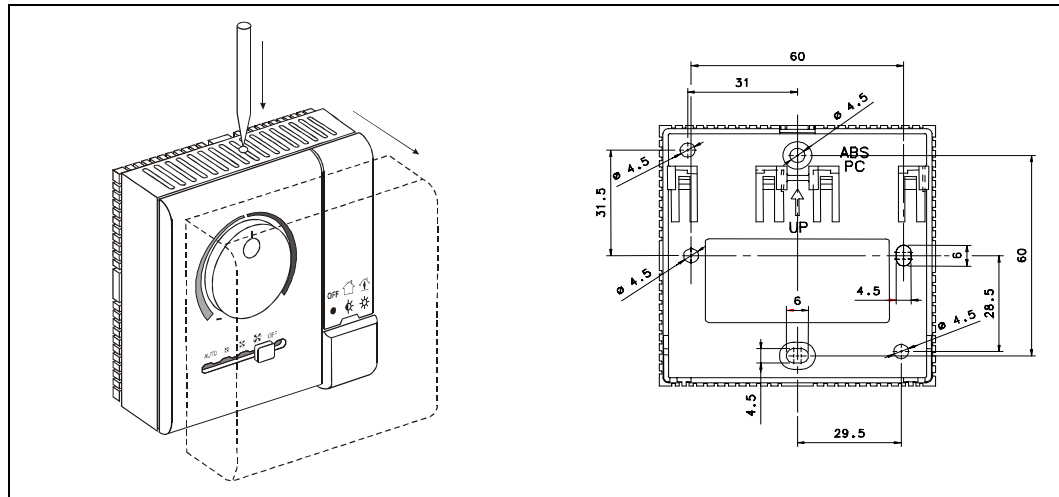

Figure 2: Mounting
**Mounting (Figure 2)**
**Montage (Figure 2)**